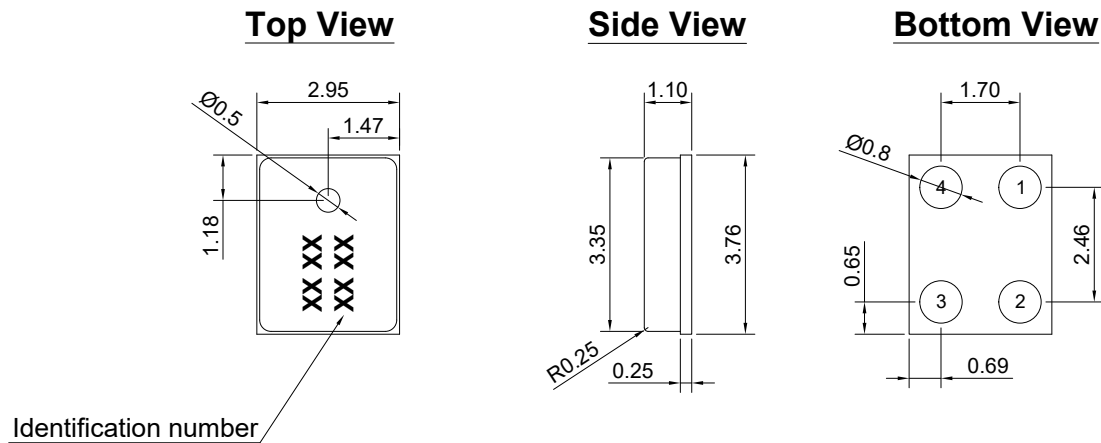

Figure 8. Mechanical Layout of SMO04A-42
- 6.3.1.** Layout and Dimension : See Section 9, Figure 8